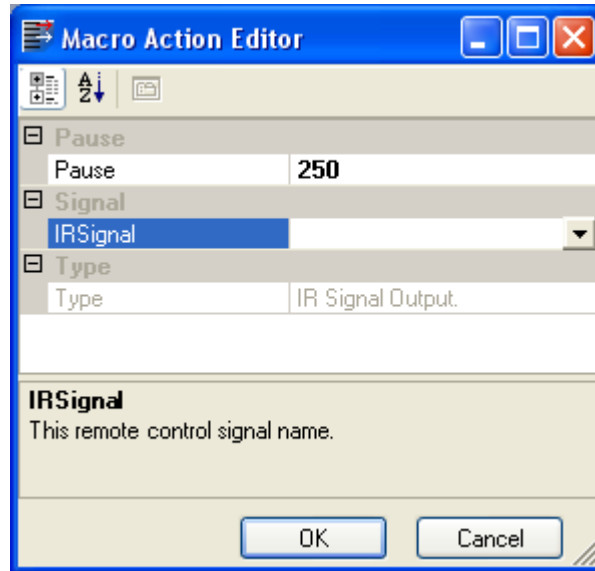

Figure 8. Dialog box for adding a signal to a macro
3. In the right-hand pan, right-click and select *Add Action*, which will bring up the action dialog box shown in Figure 8.